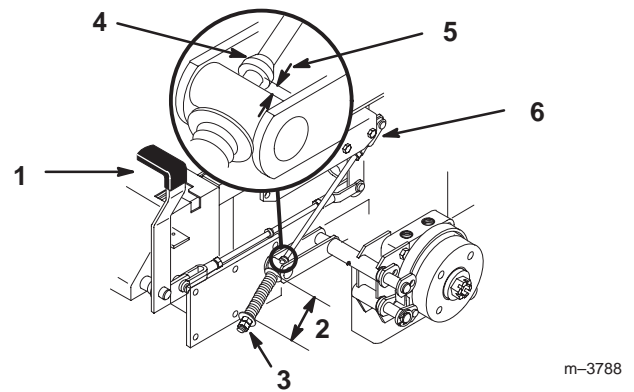

Figure 57
2. Measure the length of the spring. Measurement should be 2.75 in. (70 mm) between washers (Fig. 57).
3. If adjustment is necessary, loosen the jam nut below the spring and tighten the nut directly below the yoke (Fig. 57). Turn the nut until the correct measurement is obtained. Tighten the two nuts together and repeat on opposite side of unit.
6. Measure the distance between the trunnion roller and the collar on brake rod. Measurement should be 3/16–1/4 in. (5–7 mm) (Fig. 57).
7. If adjustment is necessary, loosen the jam nut directly below the yoke. Turn the bottom rod until the correct measurement is obtained (Fig. 57). Tighten jam nut at yoke.